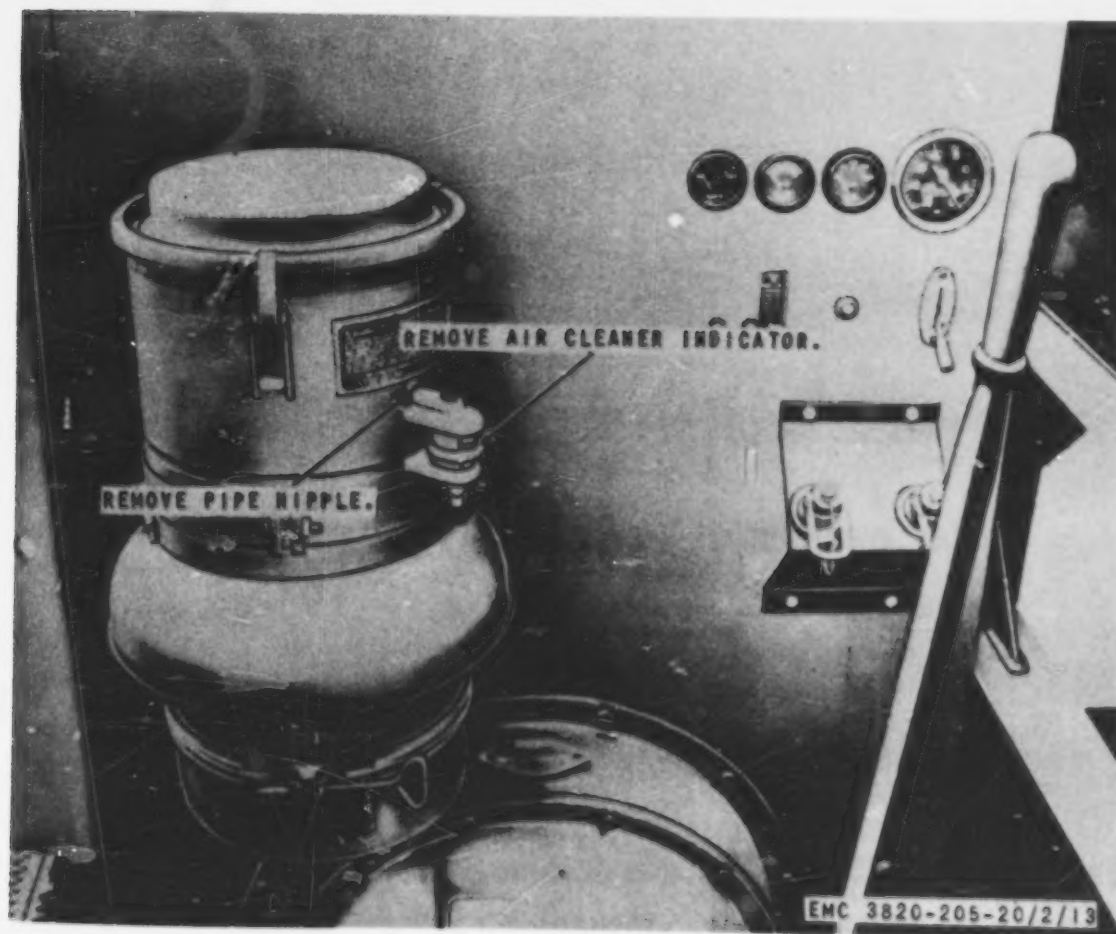

Figure 14. Air cleaner indicator, removal and installation.
(2) Bleed the fuel system (TM 5-3820-205-10 1).
a. *Removal.* Remove the air cleaner indicator from the air cleaner as instructed on figure 14.
c. *Installation.* Install the air cleaner indicator on the air cleaner in reverse of the instructions on figure 14.